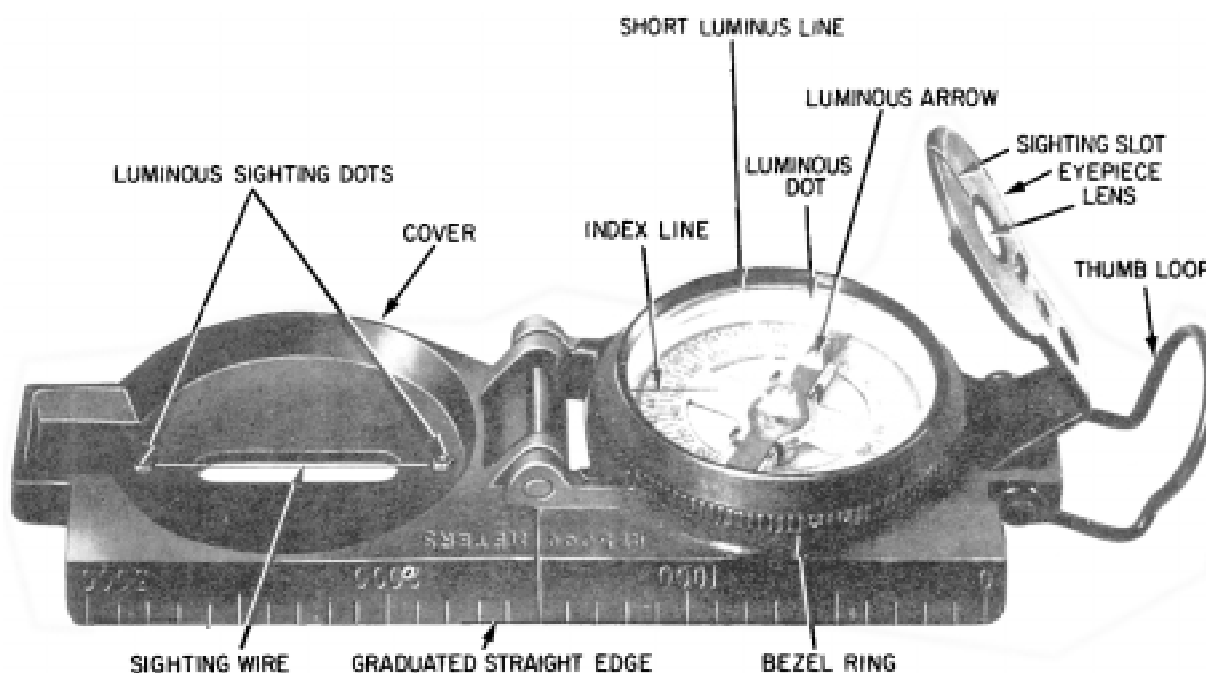

Figure 5-26.—Lensatic compass.
The lensatic compass is the most commonly used and simplest instrument for measuring directions and angles in the field. Two varieties of magnetic compasses are standard for military use today: the lensatic compass (fig. 5-26) and the artillery (M2) compass. Since the M2 is a special-purpose compass, it is not discussed in this chapter.
1. Open the cover until it forms a straightedge with the compass base, as shown in figure 5-26.
4. Hold the compass open and level in the palm of the left hand with the thumb along the flat side of the compass. In this manner, the compass can be held consistently in the same position. Position the compass approximately halfway between the chin and the belt, pointing directly ahead of yourself. A little practice in daylight should make you proficient in pointing the compass the same way every time. Looking directly down into the compass, turn your body until the north arrow is under the luminous line. Then move forward in the direction of the front cover luminous sighting dots (fig. 5-26).